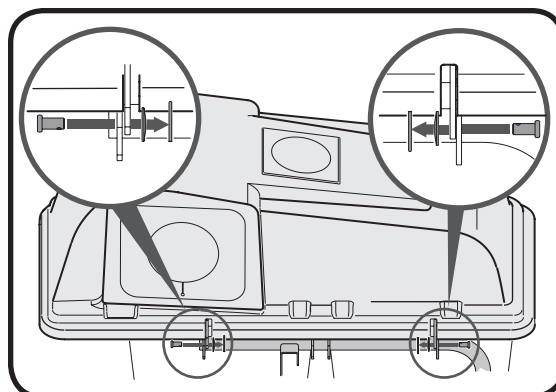

Figure 4-4
Insert the clevis pins from the outside in as shown in the inset images of Figure 4-4.
5. Insert the clevis pin through the hinge on the support tube assembly and then through the grass bag cover. See Figure 4-4.
6. Secure with belleville washer and hairpin clip with the crown side of the washer going against the hairpin clip. See inset images in Figure 4-4.
NOTE: Insert the clevis pins from the outside in as shown in the inset images of Figure 4-4. It is very important to maintain this order and direction while installing these hardware pieces. After installation, make sure that the grass bag cover pivots on the support tube and opens.